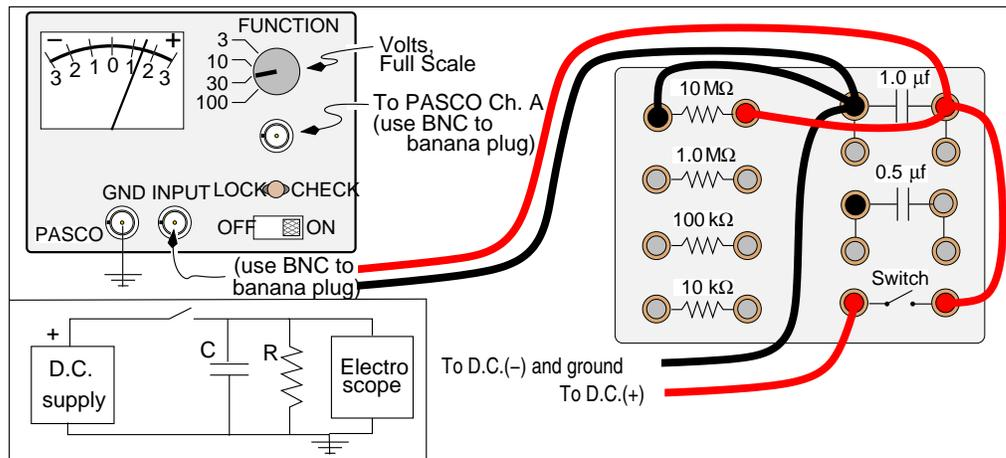

Figure 4: The resistor and capacitor are connected in parallel.
1. Connect the $10^7 \Omega$ resistor (marked as 10 Mohm or 10 M Ω) across the large capacitor ($1.0 \mu F$) and set up the electrometer to measure the voltage on the capacitor. Fig. 4 shows the nominal circuit configuration and a possible wiring diagram for the circuit. Depressing the switch connects the power supply to the circuit, which will rapidly charge the capacitor, and releasing the switch will initiate the discharge.